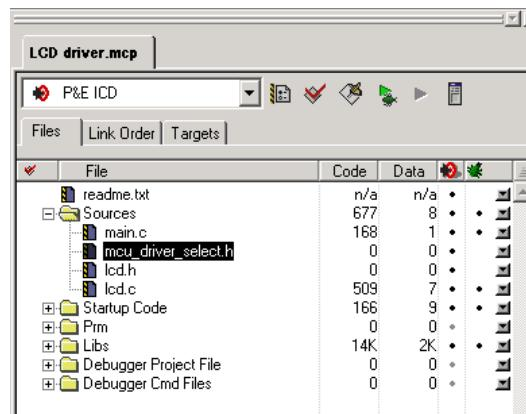

Figure 4. Sources Folder Location in the CodeWarrior Window for mcu_driver_select.h
2. Search in the project window for the folder sources and open the mcu_driver_select.h (see Figure 4).
1. Open the file lcd.h, which is located in the sources folder. See Figure 4.
1. Open main.c, which is in the sources folder (see Figure 4).